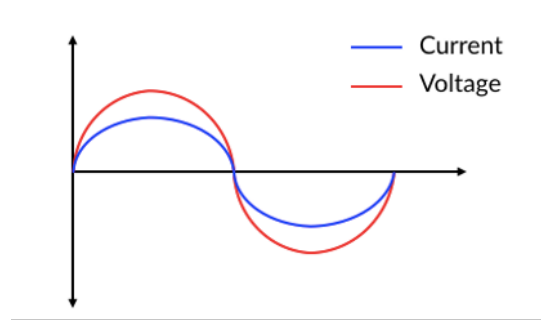

Figure 2.12: *Resistive load*
1. **Resistive load:** A type of load which consumes only active power is called a resistive load. If you look at the voltage and current waveforms of this type of load, the voltage and current are perfectly in phase with each other. Figure 2.12 shows a diagram of a Resistive load.